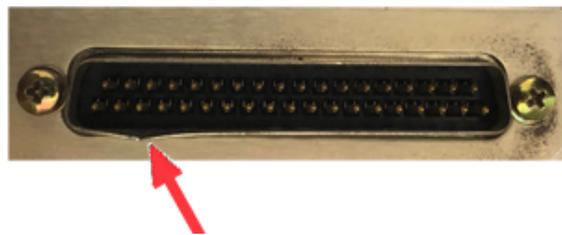

FIGURE 10. RA 60 AND HSP CONNECTORS
- G. If the module cannot be inserted fully using this type of force, remove the power supply and reinspect both the power supply module rear panel and rack adapter intermediate plate for obstruction or damage. Figure 9 shows a module improperly inserted, and gives a hint as to where the trouble may be based on the gap between the RA 60 chassis and the HSP front panel. Figure 10 shows typical examples of good vs. damaged RA 60 and HSP connectors. Note that inserting an HSP module with a damaged connector can cause damage to the RA 60 connector. Once the RA 60 connector is damaged, previously undamaged HSP connectors will be damaged by subsequent insertion.